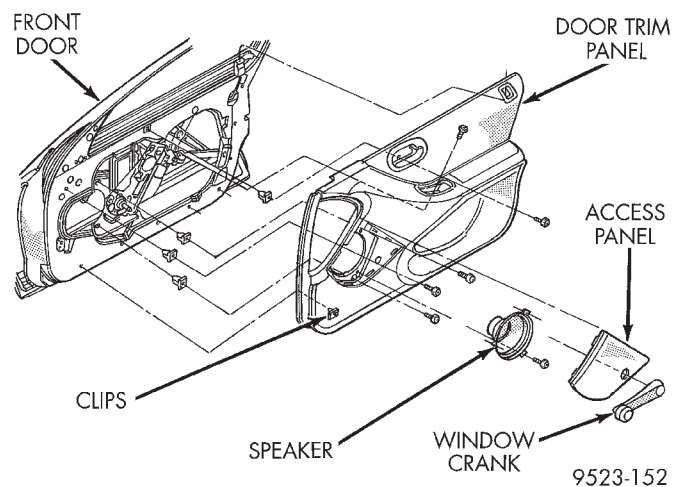
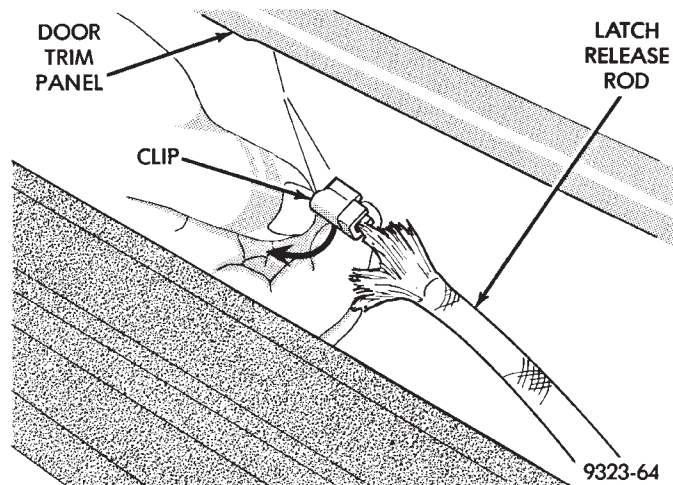

Fig. 10 Front Door Trim Panel
Fig. 11 Linkage Clip
- (3) Disengage clips holding speaker grille to trim panel (Fig. 10).
- (4) Remove screws holding door trim panel to door from around speaker opening.
- (5) Remove screw cap from bottom of arm rest pull cup.
- (6) Remove screw holding arm rest pull cup to support bracket behind trim panel.
- (7) Remove screw cap from behind inside door latch handle.
- (8) Remove screw holding door latch handle to door panel.
- (9) Disengage clips holding trim panel to perimeter of door.
- (10) Lift trim panel upward to disengage upper retainer channel.
- (11) Tilt top of trim panel away from door.
(12) Disengage clip holding latch linkage to back of release handle (Fig. 11).
(13) Separate door trim panel from vehicle.